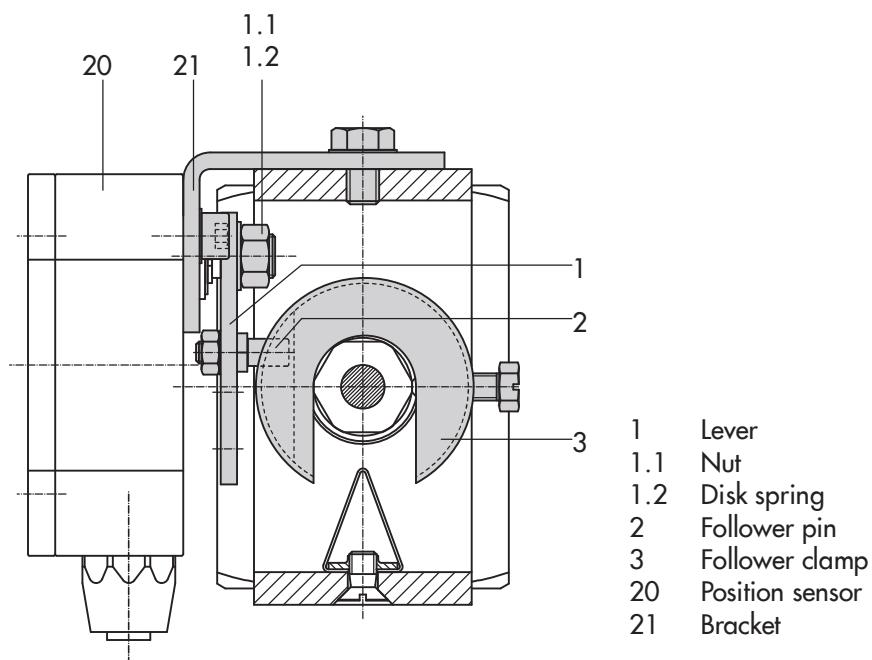

Fig. 28: Mounting on a micro-flow valve
- Refer to Fig. 28
1. Place the lever (1) on the position sensor in **mid-position** and **hold it in place**. Unscrew the nut (1.1) and remove the standard attached **M** lever (1) together with the disk spring (1.2) from the sensor shaft.
2. Screw the position sensor (20) onto the bracket (21).
3. Select the **S** lever (1) from the accessories and screw the follower pin (2) into the hole for pin position **17**. Place the lever (1) and disk spring (1.2) on the sensor shaft. Place the lever in mid-position and hold it in place. Screw on the nut (1.1).
4. Place follower clamp (3) on the valve stem connector, align at a right angle and screw tight.
5. Position the bracket (21) with the position sensor on the valve yoke and screw tight, making sure the follower pin (2) slides into the groove of the follower clamp (3).